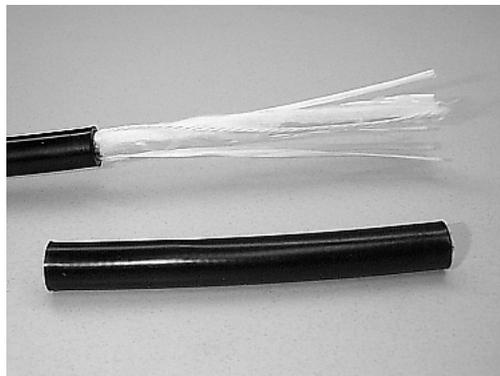

Figure 13 - Remove the 5-inch section of inner jacket.
4.15 Remove the 5-inch section of inner jacket to expose the ripcord and cable core (Figure 13).